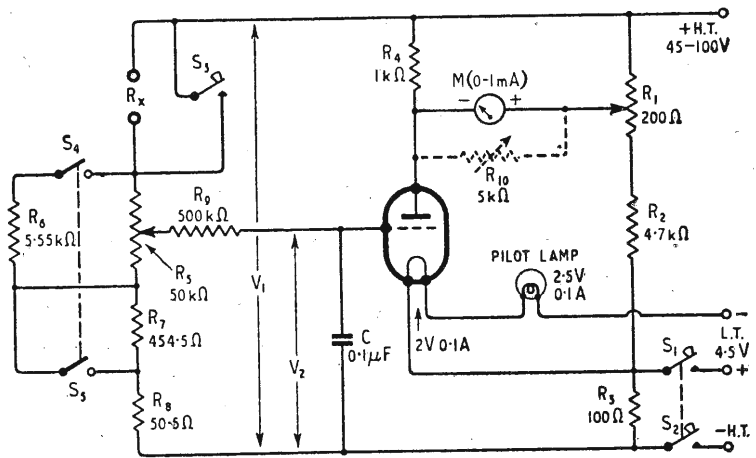

Fig. 2. Circuit diagram of practical instrument with two ranges.
The complete circuit diagram of a practical form of the megohmmeter is given in Fig. 2. A mains-driven version is of course possible; furthermore, the use of alternating energizing voltage opens possibilities of employing
For example, in Fig. 2, R_5 , corresponding with R_3 in equation (2), is 50 k Ω . The constant a is 1/100. Then, from equation (2), $R_4 = 505 \Omega$. The maximum indicated resistance is found from equation (3) . . . $R_X = 5 \text{ M}\Omega$.